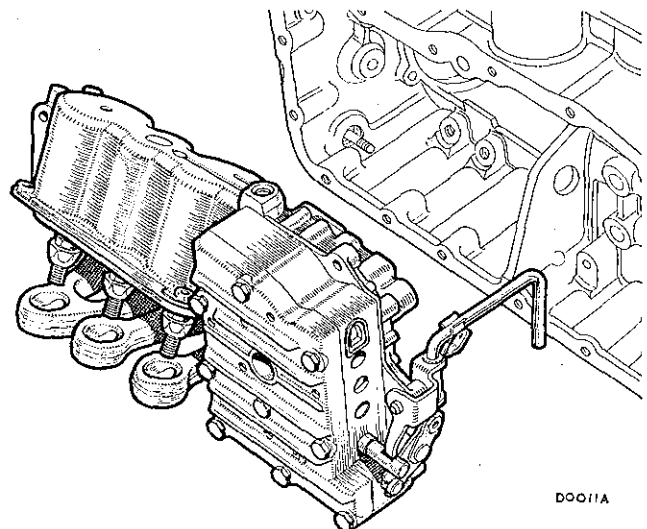

Fig. Fa.7
- (13) Remove the valve block and servo unit securing bolts, and on later models unscrew and remove the engine oil feed pipe adaptor and withdraw the valve block connecting pipe through the adaptor hole. Depress the tops of the bands and unhook them from the servos and lift out the valve block and servo unit as an assembly (Fig. Fa.7).
- (14) Remove the bands from the transmission case.